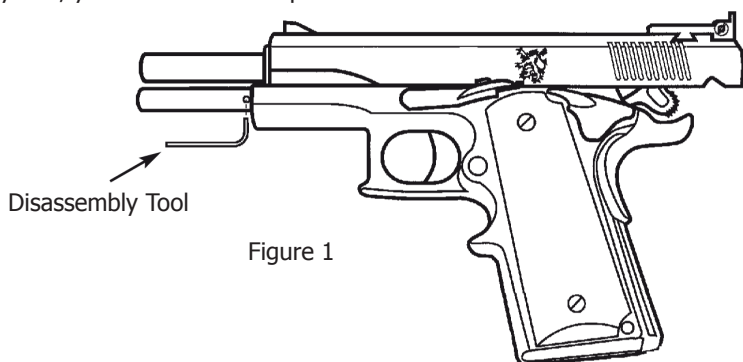

Figure 1
- 2.** Lock the slide back utilizing the slide stop as shown in figure 1.